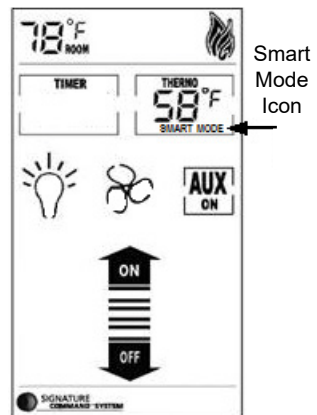

Figure 66
**Smart Mode® Thermostat Option for Thermostat Mode (Figure 66)**